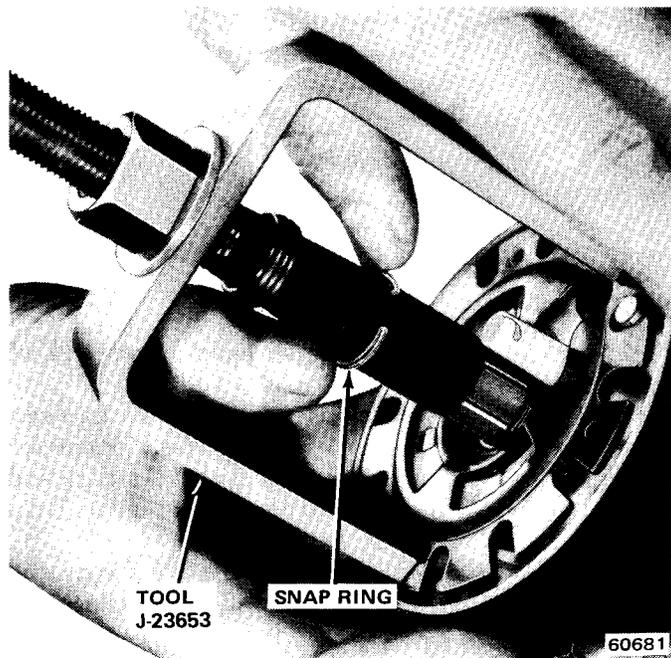

Fig. 11-27 Installing Lock Plate and Snap Ring
(19) Install lock plate on steering shaft. Install snap ring on sleeve of Compressor Tool J-23653, thread sleeve onto end of steering shaft, compress lock plate, and install snap ring in groove of steering shaft (fig. 11-27).
(20) Install anti-theft cover. Tighten screws to 22 inch-pounds torque.
(19) Place steering shaft snap ring on sleeve of Lock Plate Compressor Tool J-23653 (fig. 11-27).
(20) Install tool on steering shaft, compress lock plate, and push snap ring into place.
(21) Remove tool.
(22) Install anti-theft cover.
(23) Align canceling cam, index marks on steering shaft and steering wheel, and install steering wheel. Tighten steering wheel nut to 20 foot-pounds torque.
(24) Install hazard warning light switch knob and steering wheel trim cover.
(25) Install shift lever.
(26) Install key lock cylinder.